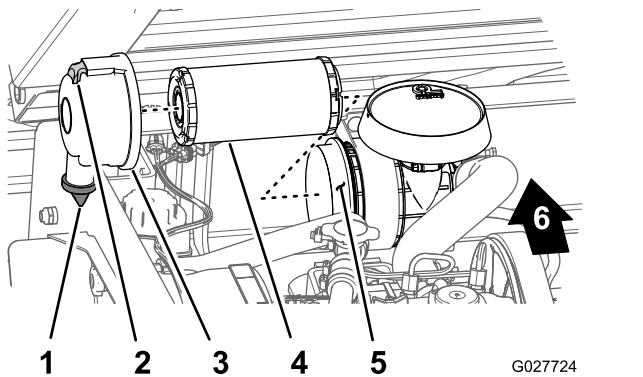

Figure 31
2. Check the air-filter body for damage that could possibly cause an air leak (Figure 31).
3. Pull the latch outward and rotate the air-filter cover counterclockwise (Figure 31).
5. Gently slide the air-filter element out of the air-filter housing (Figure 31) to reduce the amount of dust dislodged.
1. Clean the dirt-ejection port located on the air-filter cover (Figure 31).
2. Remove the rubber outlet valve from the cover, clean the cavity, and replace the outlet valve (Figure 31).
3. Insert the air-filter element into the air-filter housing by applying pressure to the outer rim of the element to seat it into the air-filter housing (Figure 31).
4. Align the air-filter cover with the air-filter housing with the rubber outlet valve in a downward position (approximately between the 5 o'clock and 7 o'clock positions when viewed from the end) as shown in Figure 31.
5. Secure the cover to the housing with the latches (Figure 31).